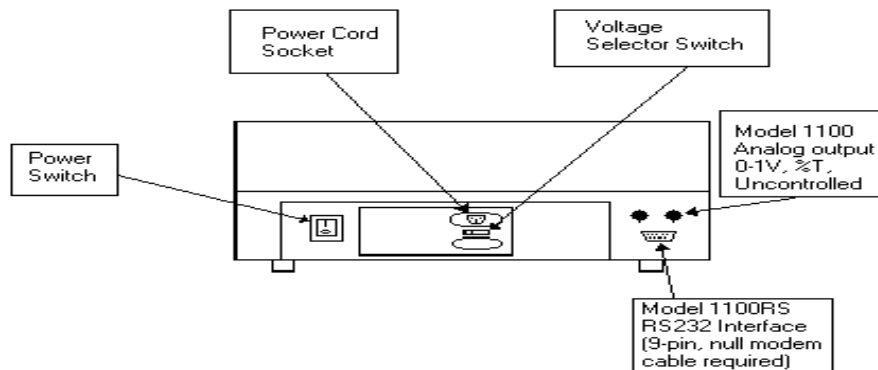

Figure-2 Backside of **UNICO® 1000**
3. Select either **230V** or **115V** on the Voltage Selector Switch on the backside of the **1000** shown in Figure-2, to match your local main voltage supply.